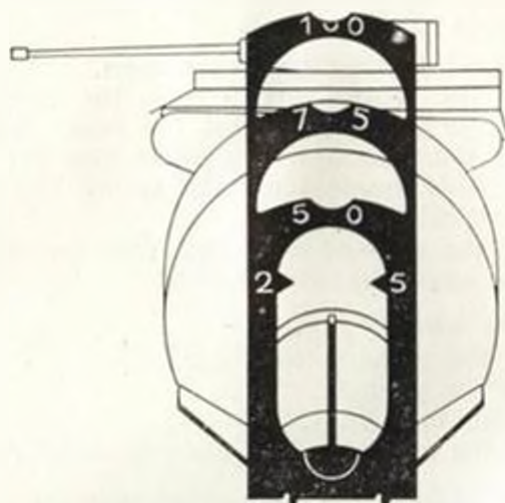

Fig 3.—Correct aim 75 yards— stationary target
- (b) Select the sight ring which corresponds to the estimated range, and align the top surface of this ring, the centre of the upper edge of the grenade and the centre, or a selected point, of the target (*see Fig 3*).